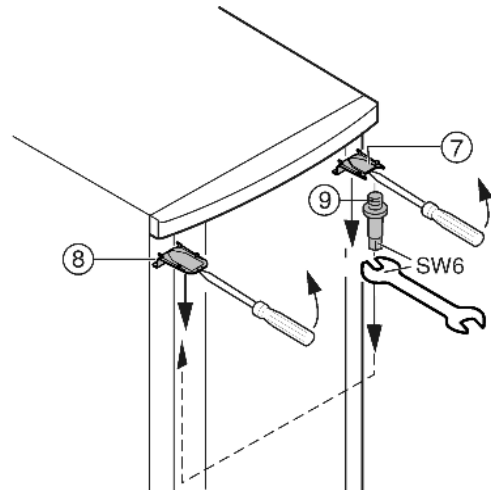

Fig. 7
- ▶ At the top, use a screwdriver to unclip cover Fig. 7 (7) and cover Fig. 7 (8) at the front, and remove by pulling out and down.
- ▶ Unscrew the bearing pin Fig. 7 (9) and screw it firmly into place on the opposite side (with 4 Nm).
- ▶ Refit the cover Fig. 7 (7) on the side of the bearing pin: insert at the back, snap in at the front.
- ▶ Fit the cover Fig. 7 (8) on the opposite side: insert at the back, snap in at the front.
- ▶ Hang the door on the bearing pin Fig. 7 (9) at the top.